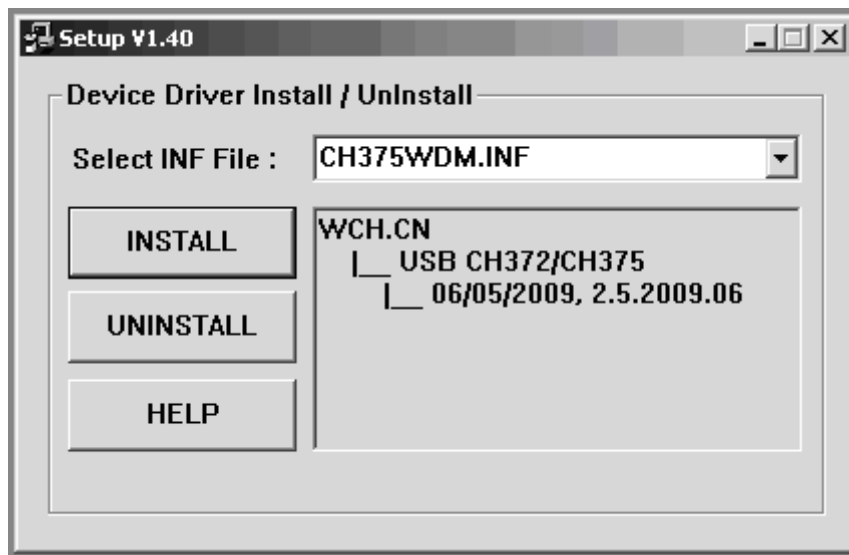

Fig. 5
6. Select the **Setup Usb Driver** menu option. The following window opens up (see Fig. 5):